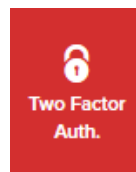

Figure 11. Partner Portal (Two Factor Auth. icon)
4. Click the **Two Factor Auth.** link on the left-hand side of the web page (Figure 11 \(page 52\)).